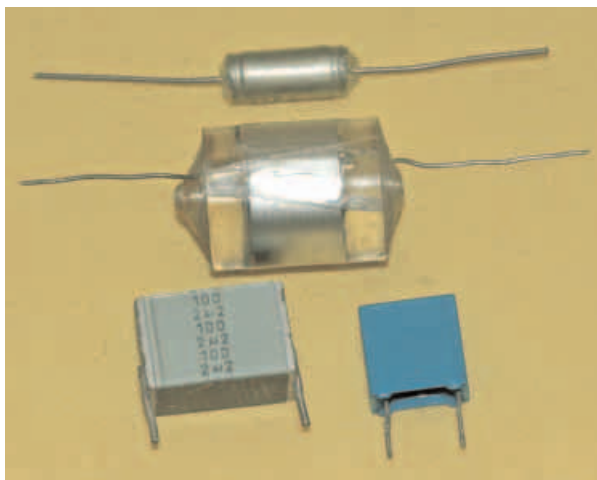

Fig.1. Axial lead capacitors (top and middle) are used relatively little in modern projects. PC capacitors (bottom) are now the norm
The situation is not much better with some capacitors that are too small. The types that have tubular bodies and long leads should fit into place without any difficulty. Capacitors of this type are usually referred to as "axial" capacitors (see Fig.1 top and middle).
Printed circuit (PC) mounting capacitors are far less accommodating, and these have short leads that are effectively printed circuit pins (Fig.1 bottom). These leave little room for manoeuvre, and with some types there is a likelihood that the leads will break off if you try bending them outward to fit a wider lead spacing. In general, the types that have a plastic case are much tougher than the uncased variety.